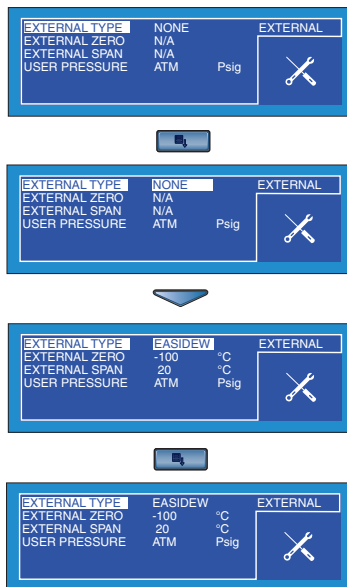

Figure 2.11 - Select external transmitter
2.6.4 External transmitter selection (Figure 2.11)
Highlight EXTERNAL from the main menu by using a combination of the ▲ (up) and ▼ (down) scroll keys and press the Enter key. The EXTERNAL set-up menu, is then displayed, See Figure 2.11.
Figure 2.11 illustrates the selection of an EASIDEW transmitter. Note that the ZERO and SPAN limits are automatically added for this transmitter. For external TEMP and PRESS transmitters these limits will need to be defined.